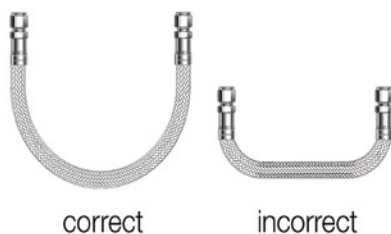

FIGURE 4. Always ensure a hose is bent far enough away from the fitting connection to prevent shortening a hose's useful life
- Bending too close to the hose/fitting connection (Figure 4)